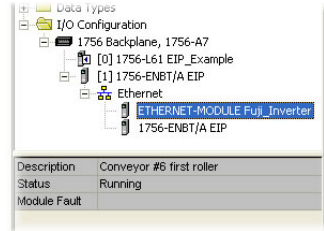

Figure 82: Online Module Status
- 7) Switch to online mode and download the project to the PLC. Verify that the newly-added inverter is available and operating correctly by observing any indications shown on the inverter's icon. When the inverter's icon is selected, its status and any available error messages will be displayed in the area below the project tree. Refer to Figure 82. Also confirm that the interface card's "Network Status" LED should be solid green, indicating an "online/connected" state.